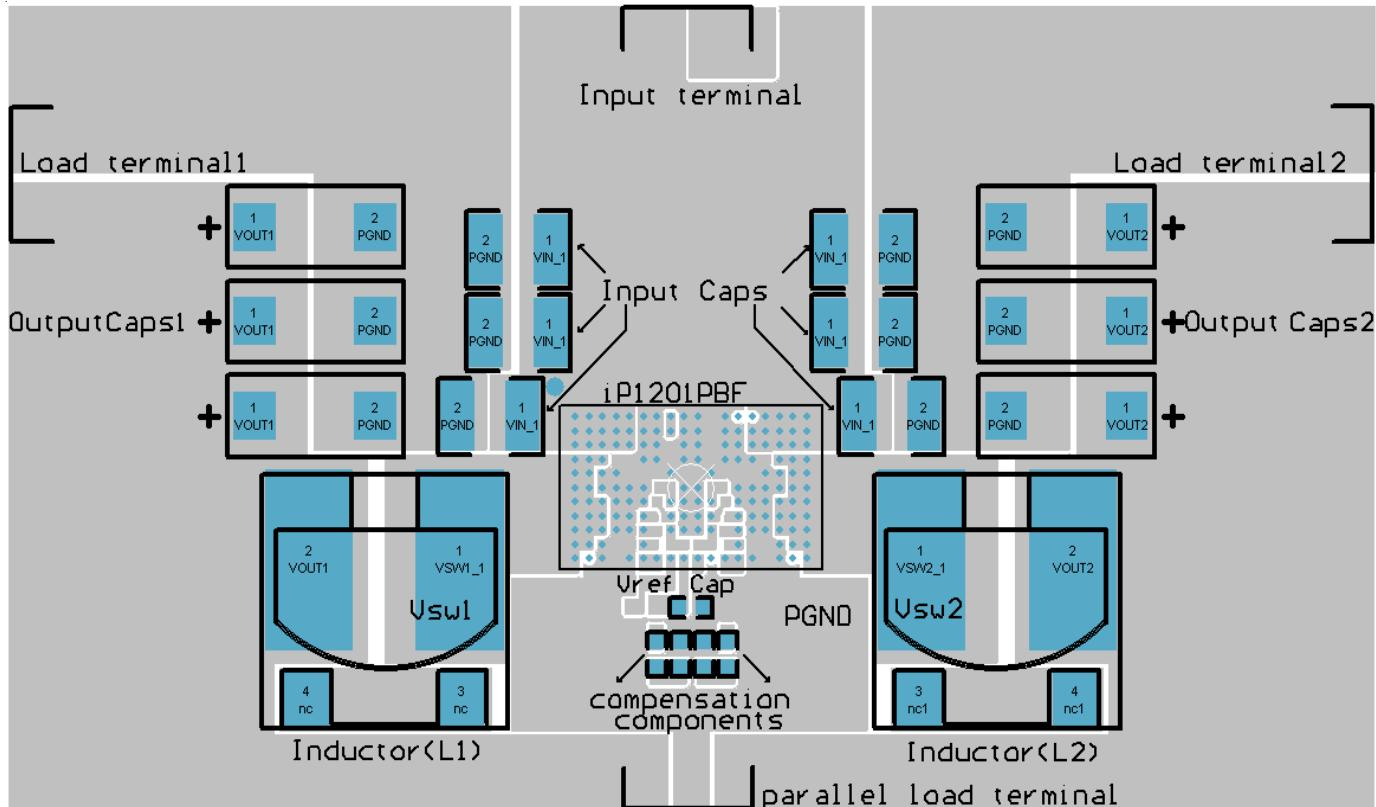

Fig. 33: iP1201PbF suggested layout
1. Follow the layout scheme presented in Fig. 33. Make sure that the output inductors L1 and L2 are placed as close to iP1201PbF as possible to prevent noise propagation that can be caused by switching of power at the switching node Vsw, to sensitive circuits.